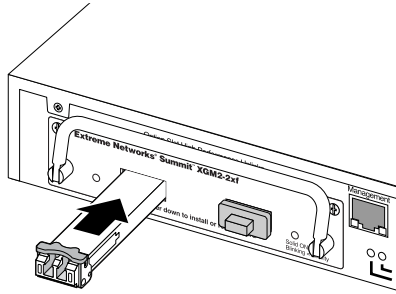
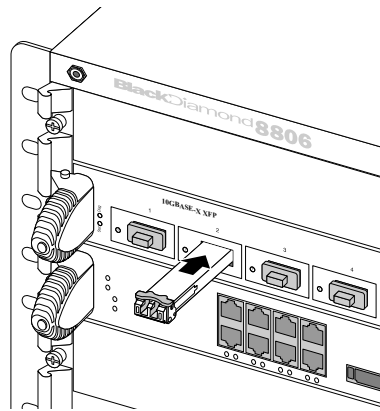

Figure 30: Installing an XFP Module (ExtremeSwitching and Summit Switches)
Figure 31: Installing an XFP Module (BlackDiamond 8800 series switches)
4. Holding the module by its sides, partially insert the XFP module into the XFP port. See Figure 30 and Figure 31.